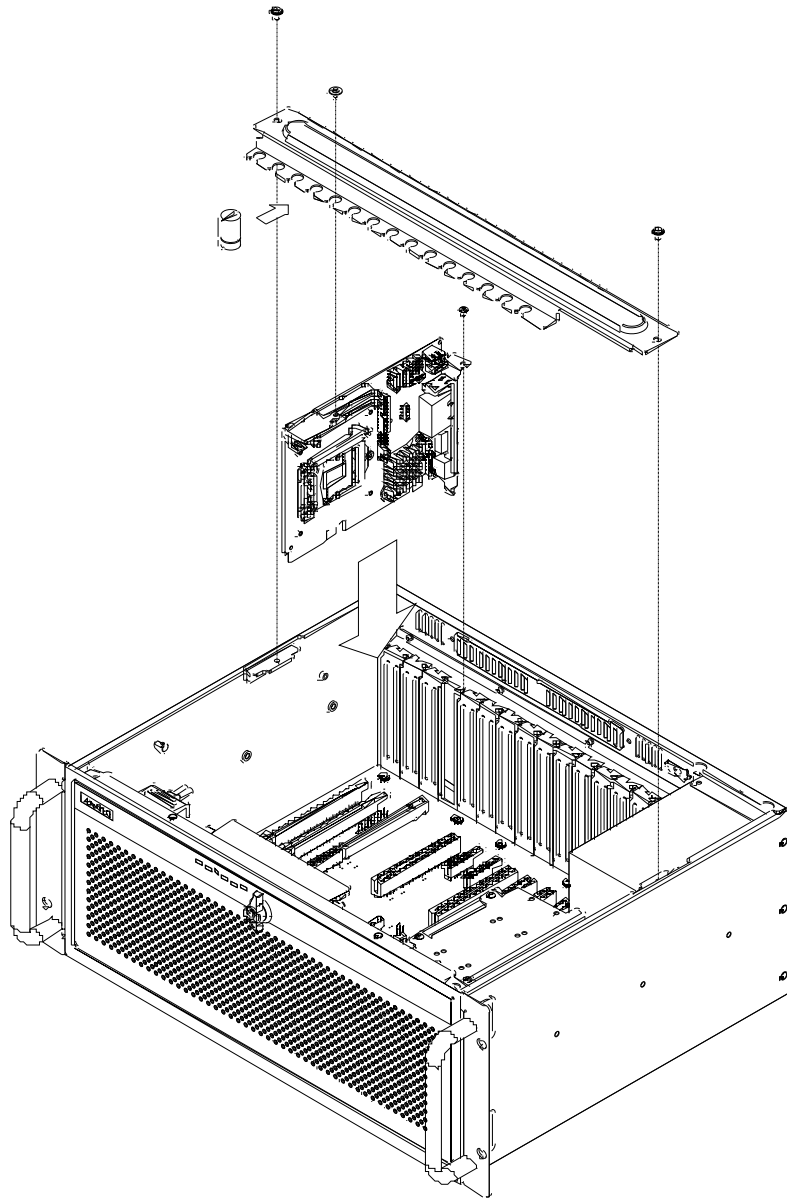

Figure 2.7 Inserting the CPU card to the PICMG slot on the backplane
3. Insert the whole unit into PICMG slot on backplane, then replace the hold-down clamp. Use rubber pad in accessory box to fix CPU card and hold-down clamp and use two screws to fix hold-down clamp onto chassis and CPU card (see Figure 2.7 Inserting the CPU card to the PICMG slot on the backplane).
3. 然后将整组插入底板上的 PICMG 插槽，将压杆放回，用附件盒内的橡胶垫固定住 CPU 卡与压杆，用 2 颗螺丝将压杆固定在机箱和 CPU 板卡上（如图 2.7 安装 CPU 卡在底板上的 PICMG 插槽）。